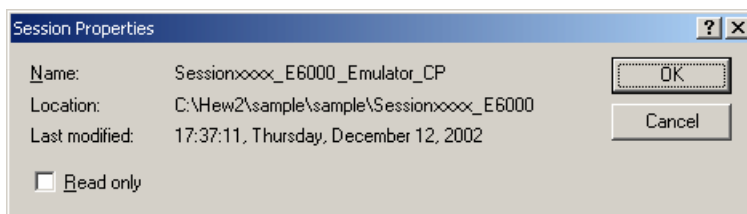

Figure 4.18 [Session Properties] Dialog Box
3. Click the [Properties] button to display the [Session Properties] dialog box (figure 4.18).